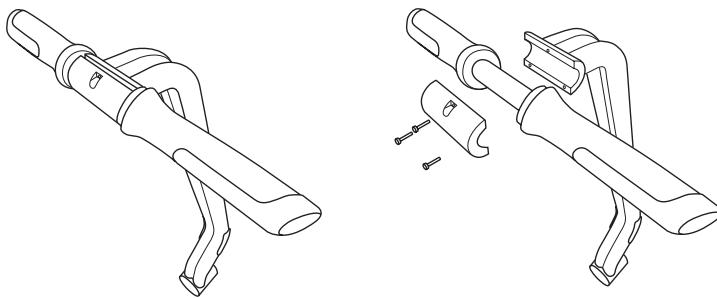

Figure 33. Remove Handlebar from the LeanSteer Frame
3. When you remove these fasteners and the Handlebar Clamp, the Handlebar is released from the LeanSteer Frame (see **Figure 33**).